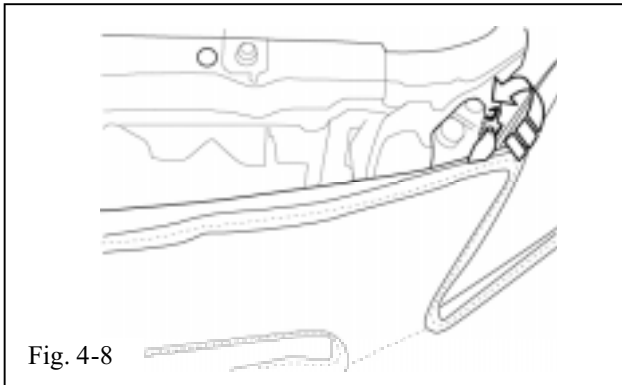

Fig. 4-8
- (h) Attach one (1) elastic with  hook to the headlight bracket (Fig. 4-8).
(1) Repeat on other side.